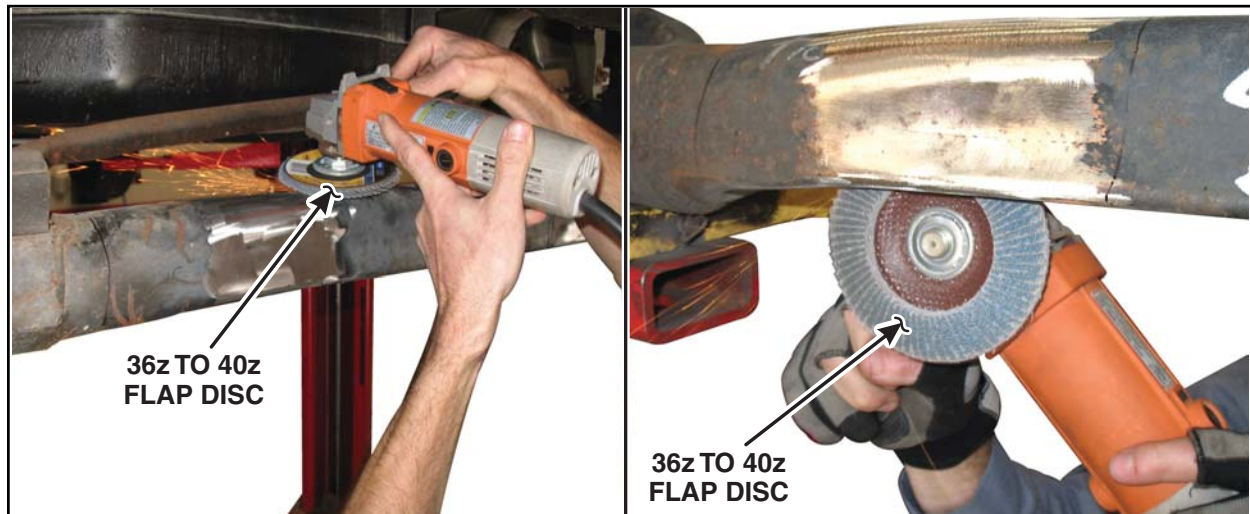

FIGURE 3
4. Using a 36z to 40z flap disc or equivalent, grind the rear axle in the marked areas. Remove all E-coat and rust. Metal should be shiny in appearance. (Do not try to remove tool marks or marks caused by deep stone pecking or pitting.) See Figure 3.